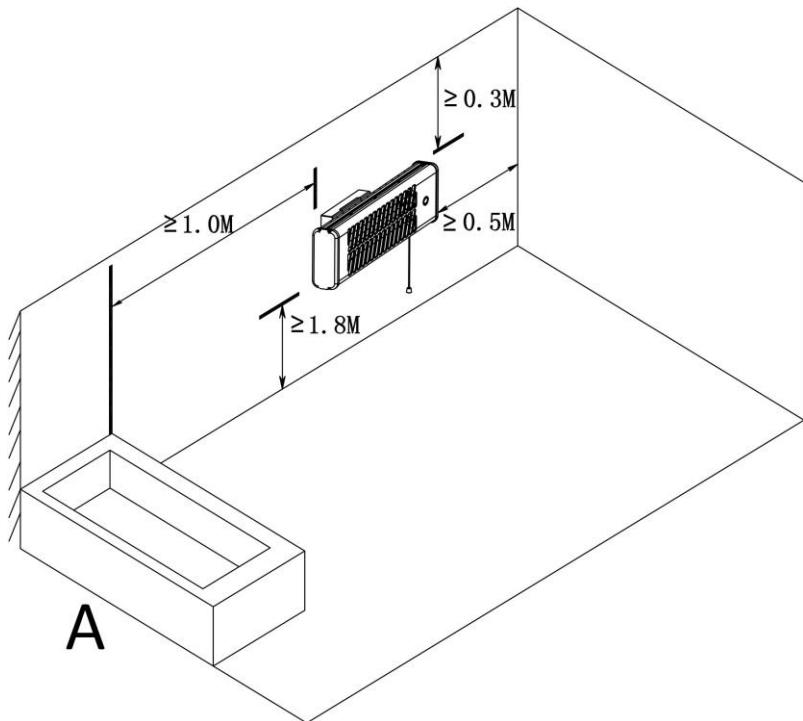
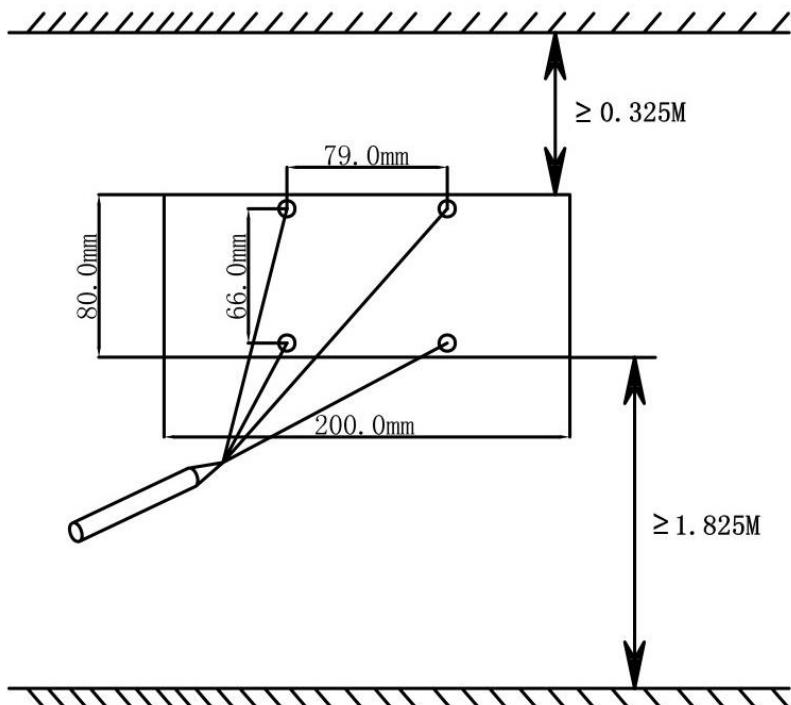

Fig.3
Fig.4
20. Keep safe distances according to European standards and national regulations indicated in Fig. 3.
2. The quartz heater must be installed at a horizontal position only. Do not install at the ceiling or vertically. During installation respect the minimum distances indicated in Fig. 3. The heater must be mounted at least 1800mm above the floor, 300mm under the ceiling and 500mm away from side wall(s).
3. Find the most appropriate position so as not to block access to the pull switch cord and the switch, at all times respecting the safety distances indicated in Fig. 3. Mark the holes for mounting on the wall where the heater is to be installed. Take the measure on Fig. 4 as reference. Mark a cross in the center of the hole for more precise drilling. (See Fig. 4)